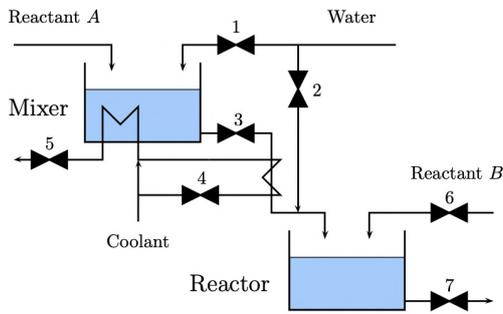

Figure 1: Control of mixer/reactor process
The process flowsheet is shown in Figure 1. Pure reactant A is fed to a mixer where it is diluted with (pure) water to a specific concentration. The flowrate of reactant A entering the mixer can be measured. The concentration of reactant A in the mixer cannot be measured because it is difficult to install a concentration sensor in the mixer due its complex internal design. Mixing of A with water is an exothermal process (heat is released) resulting in a increase of the temperature, and cooling is needed to keep the temperature below a certain limit. The outlet flow of the tank is further cooled in a heat exchanger. The concentration of the flow going from the mixing tank to the reactor is "fine tuned" by adding more water. It is possible to measure the concentration of the flow entering the reactor. Reactant B is fed into the reactor, where it reacts with reactant A. The reactor temperature should be kept constant.
b) Identify and classify the variables for the process shown in Figure 1: *manipulated variables (MVs)*, *controlled variables (CVs)* and important *disturbances (DVs)*.